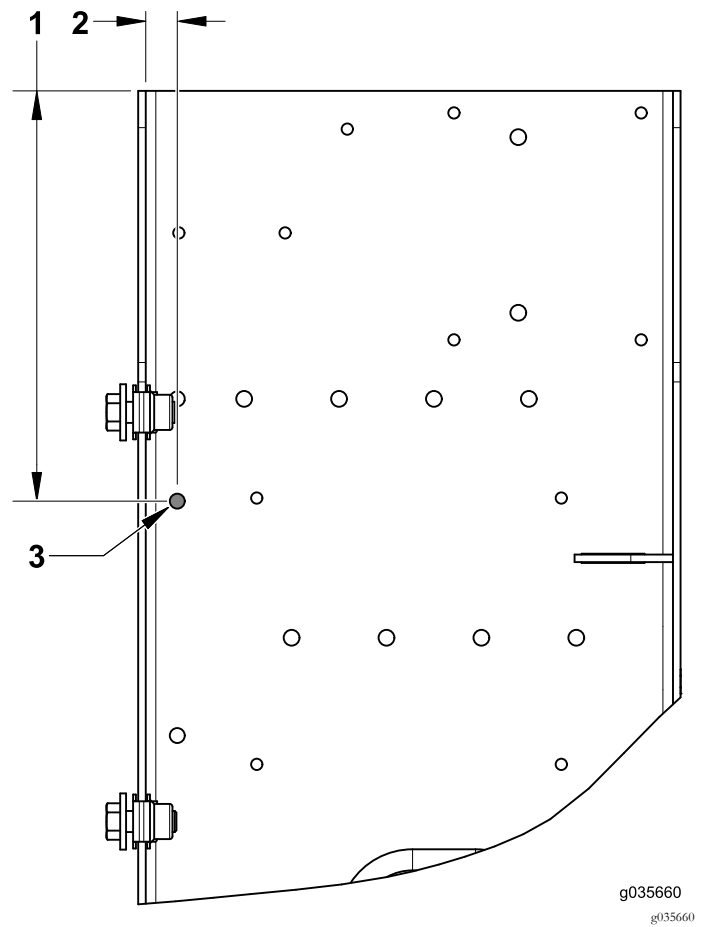

Figure 9
5. Locate and drill the following hole for the controller (Figure 9).